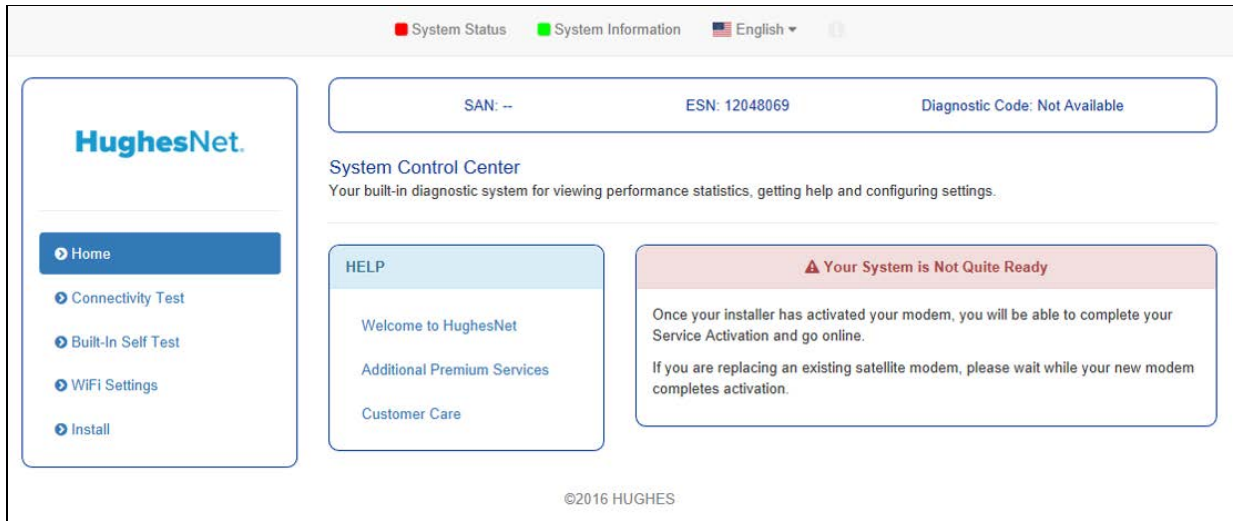

Figure 11: System not ready screen
2. Click the Advanced Pages icon at the top of the page as shown in Figure 11. The Advanced Configuration and Statistics page appears as shown in Figure 12.